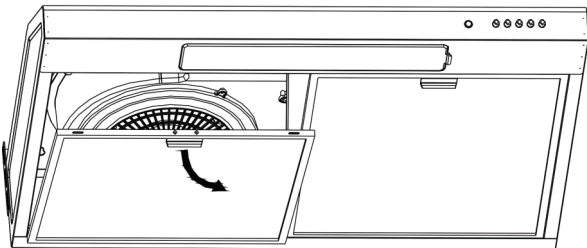
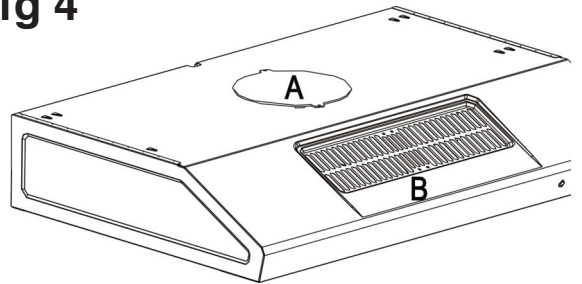
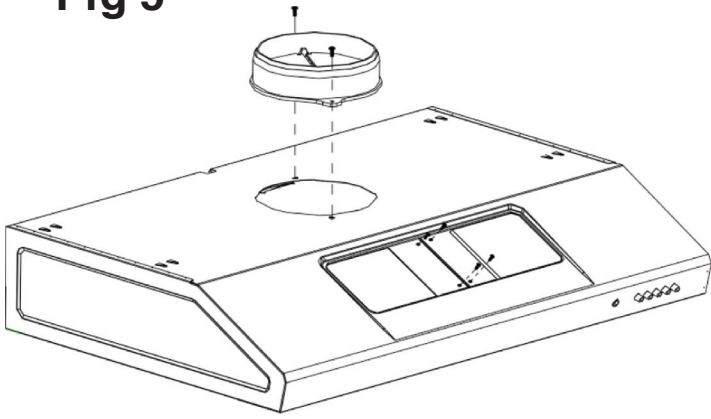

Fig 4
Fig 5
Fig 6
-Decide on the position of the hole for the air outlet: The hole may be in the wall or the ceiling, according to your requirements, but must be in vertical line with your hood. Bear in mind that the hood just expel air through the top opening A (Fig.4).
-Mounting the air outlet adapter to the top opening A by securing two screws. Bear in mind that the opening B(Fig.4) must be closed by two ventilation cover with 4 screws(Fig.5) then insert the nameplate into the ventilation covers(Fig.6).
- CHECK THAT THE FRONT OPENING B MUST BE CLOSED(Fig.5 and Fig.6)